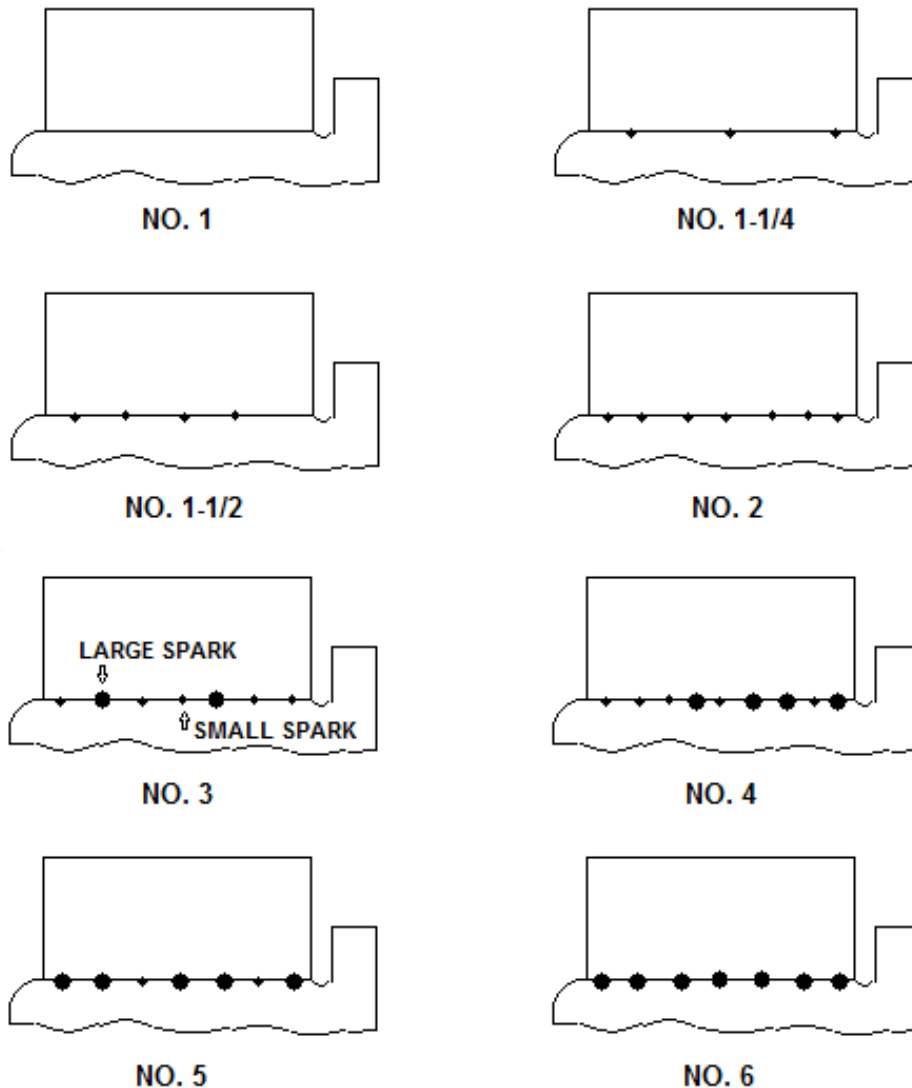

Figure 551-88L-2056\_05
c. The degree of sparking should be determined by careful visual inspection. The illustrations shown in Figure 551-88L-2056\_05 are a useful guide. It is very important that you gauge the degree number as accurately as possible. The solution to the problem may well depend upon the accuracy of your answer since many motor, load, environmental and application conditions can cause sparking.